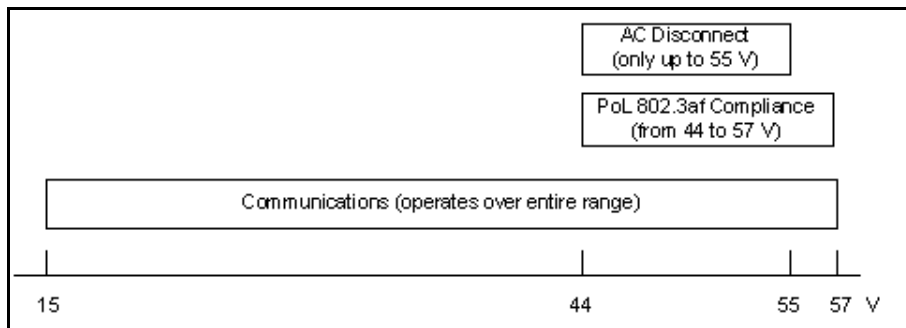

Figure 1: Operational Ranges
1. Operating functions depend on the input voltage, as shown in Figure 1.